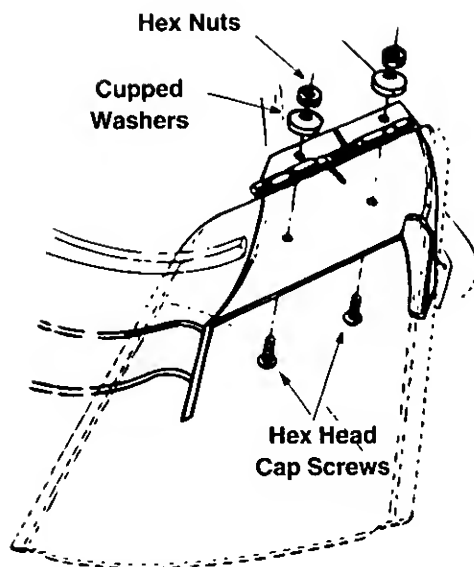

Figure 6
3. Place the chute deflector in position as shown in Figure 6. Secure with hardware just removed. Cupped sides of washers go against the chute deflector.